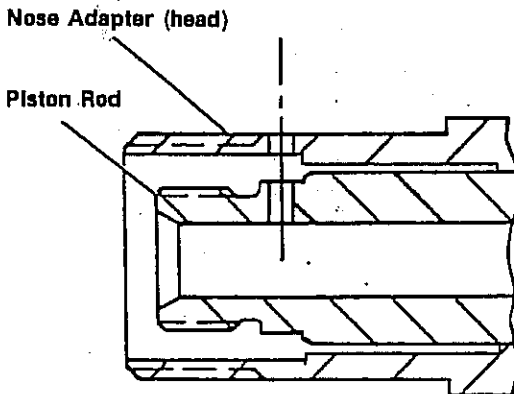

Figure 7. Staking Holes Aligned
28. Hold tool trigger depressed and remove air hose. Slip Hose Clamp (17) over deflector (18). Push deflector, with clamp, onto deflector tube until it stops. Tighten clamp. Attach air hose and piston will move forward. For final check, see next step.
29. Final check. Stake holes in piston and head must be in alignment. See Figure 7. If holes are not aligned, repeat paragraph 27.
- b. Throttle Valve (61) stuck. (Lubricate O-rings (62) and (63).
- c. Throttle Lever (46) binding.
8. Air leaks at air Cylinder Head (84).
- a. O-ring (85) damaged.
- a. Worn or damaged O-ring (73) and Back-up Ring (74) on upper gland.
- b. Worn or damaged O-ring (59) and Back-up Ring (58) on Relief Valve (57).
- c. High pressure opened Relief Valve (57). See 3. e.
- d. Low pressure opened Relief Valve (57). (This is a malfunction of the relief valve and it should be replaced with a factory set valve.) See **Assembly, and Filling and Bleeding Tool**, paragraph 3.
10. Staking holes not aligned. See **Figure 7**. To align stake holes:
- a. Screw stall nut, P/N 84213, or nose assembly collet onto piston rod. Loosen Return Pressure Relief Valve Plug (27) until fluid seeps out.